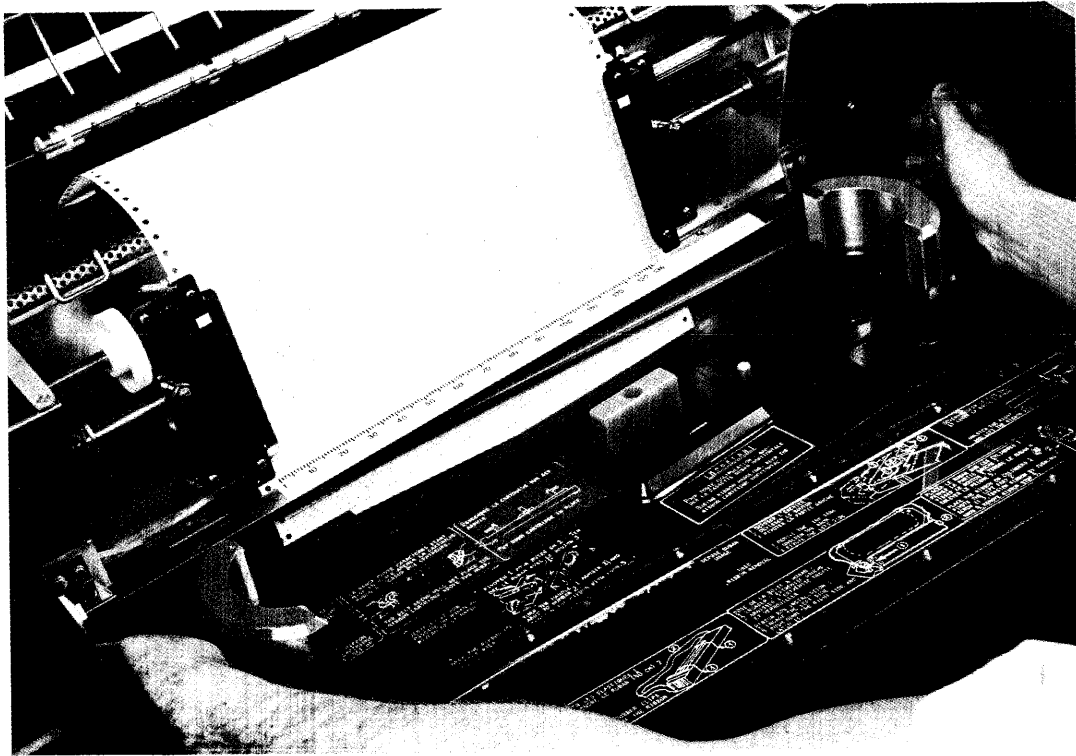

Figure 3-3. Opening the Belt Unit
2. Open the belt unit by using both belt unit release handles as shown in Figure 3-3.